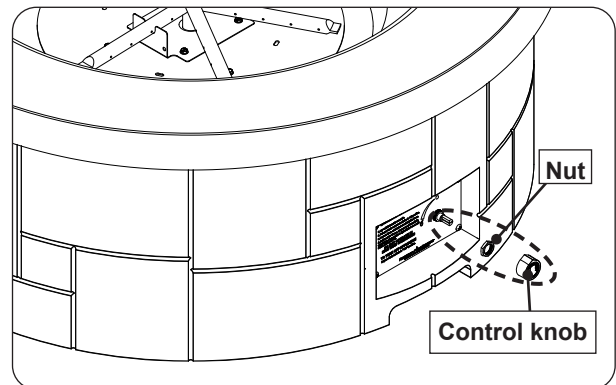

Fig. 30-2 Remove control knob and nut
2. Remove the control knob, and set aside. Use a 20mm socket to remove the nut attached to the valve. See Fig. 30-2.